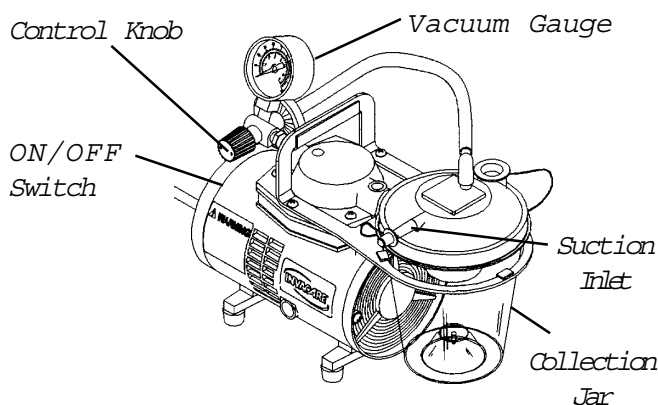

FIGURE 2 - OPERATION
## OPERATION (FIGURE 2)
1. Familiarize yourself with the Aspirator, FIGURE 2.